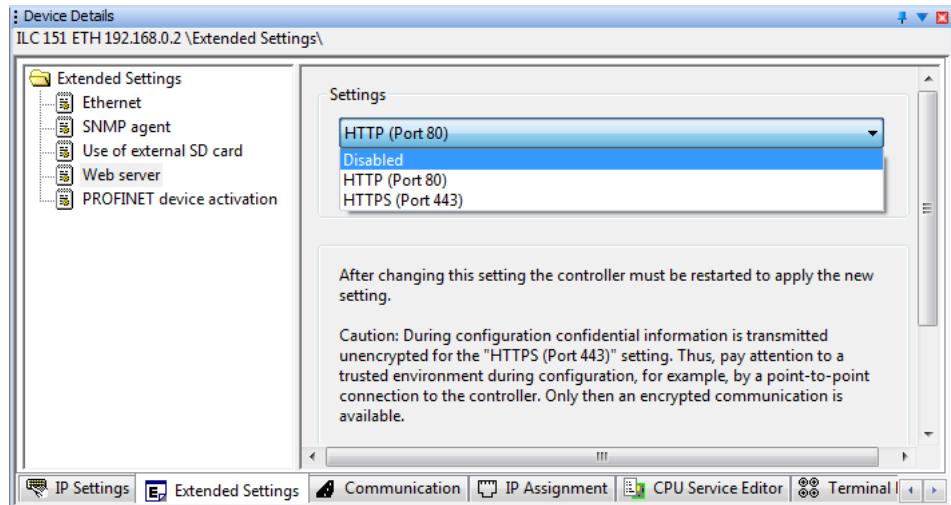

Figure 3-30 Disabling HTTP
- Click “Send” (hidden by the drop-down list in Figure 3-30) to transmit the setting to the Inline controller.